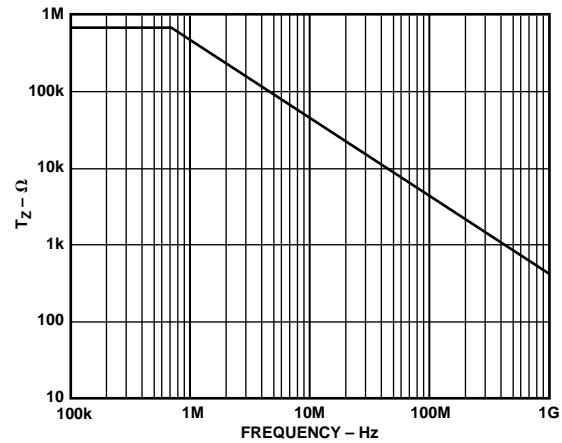

Figure 41. Transimpedance vs. Frequency
Recognizing that $G \times R_{IN} \ll R1$ for low gains, it can be seen to the first order that bandwidth for this amplifier is independent of gain (G). This simple analysis in conjunction with Figure 41 can, in fact, predict the behavior of the AD8001 over a wide range of conditions.